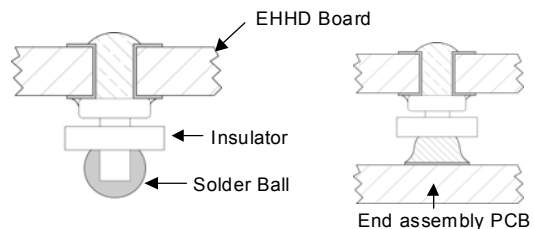

Figure 25. Column Pin Connector Before and After Reflow Soldering .
The surface mountable modules in the EHHD family use our newest SMT technology called "Column Pin" (CP) connectors. Figure 25 shows the new CP connector before and after reflow soldering onto the end-board assembly. The CP is constructed from a solid copper pin with an integral solder ball attached, which is composed of tin/lead (Sn/Pb) solder for non-Z codes, or Sn/Ag₃/Cu (SAC) solder for -Z codes.
Power Systems will comply with J-STD-015 Rev. C (Moisture/Reflow Sensitivity Classification for Nonhermetic Solid State Surface Mount Devices) for both Pb-free solder profiles and MSL classification procedures. This standard provides a recommended forced-air-convection reflow profile based on the volume and thickness of the package (table 4-2). The suggested Pb-free solder paste is Sn/Ag/Cu (SAC). The recommended linear reflow profile using Sn/Ag/Cu solder is shown in Figure 25.